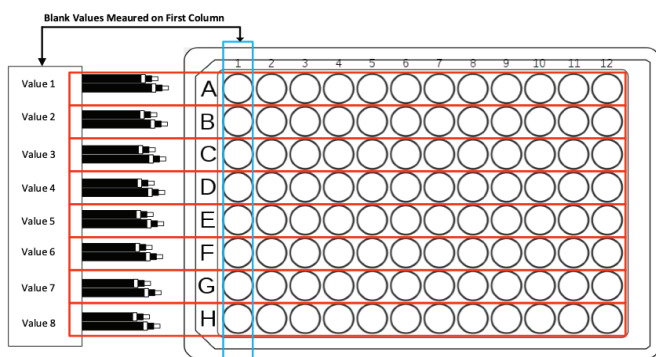

Fig. 28—The values of the blanks are measured to determine the baseline resistance without any cells. This figure shows an array of 96 wells.
- Select your blank option. This option measures the resistance of the first column (Wells A1, B1, C1... H1), and this value is used as a baseline for each row. Each value on the *Blank Value* table measures the resistance of the specific electrode pair used to measure each column on a well containing only buffer or media. (See the column highlighted in blue in Fig. 28.) These values (Value 1 ... Value 8) are subtracted from the measurements on the corresponding row (Red Rectangles) to obtain the change from the baseline well (the well with no cell growth) to omit any offset or background values.